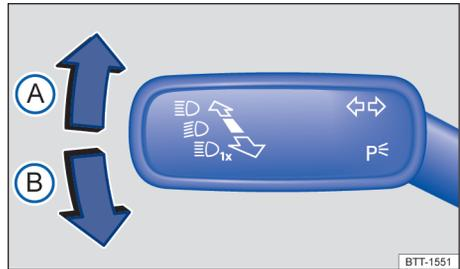

Fig. 73 On the left on the steering column: turn signal and main beam lever.
- Move the turn signal and main beam lever from the centre position to the following position → Fig. 73:
- (A) Right side parking light on.
- (B) Left side parking light on.